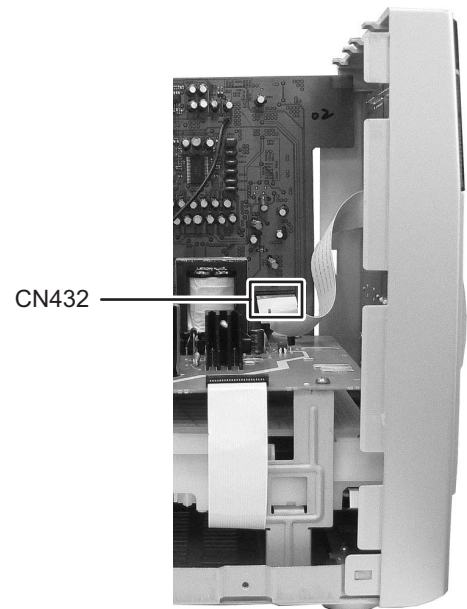

Fig.3
### 3.1.2 Removing the Front panel assembly (See Fig.3 to 5)
- (1) Disconnect the card wire from front panel assembly connected to connector CN432 of the Main board assembly. (See Fig.3)
- (2) Remove the two screws **B** attaching the tray assembly from upper side of CD mechanism. (See Fig.3)
- (3) Remove the bussing of the tray assembly from boss **c** of the CD mechanism assembly and remove the tray assembly. (See Fig.3)